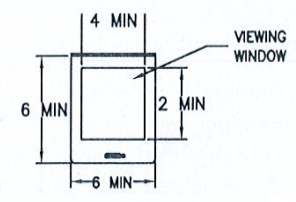

FIG. 4
- c. Provided with a demand reset cover with a viewing window (see fig. 4). The reset cover shall be sealable and lockable with a padlock having a 5/16-inch lock shaft.